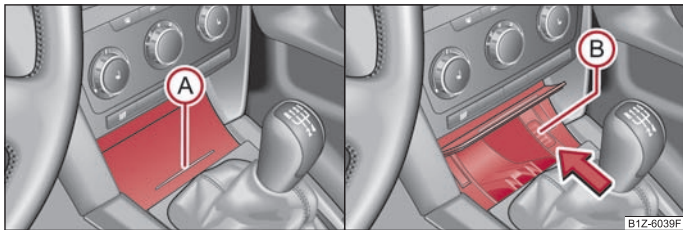

Fig. 68 Centre console: Removing ashtray/ashtray insert
- Press on the bottom part of the cover of the ashtray - refer to (A) ⇒ fig. 68.